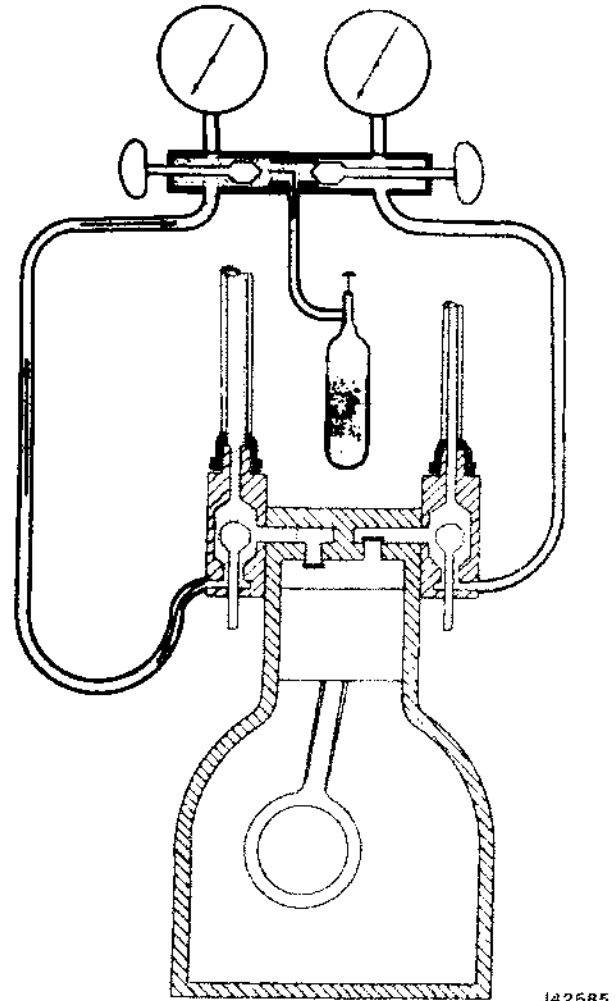

Fig. 13A-5 Valve Positions for Discharging
- (1) Connect the Pressure Gauge and Manifold Set to the proper service valves.
- (2) Turn both manifold hand valves to the maximum counterclockwise (open) position.
(3) Open both service valves a slight amount and allow the refrigerant to discharge slowly from the system (fig. 13A-5).